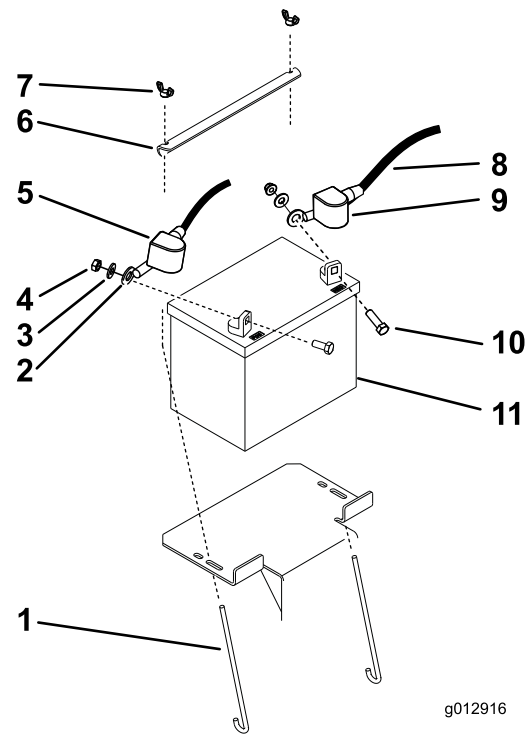

Figure 33
3. Remove the black rubber cover from the negative cable and disconnect the negative battery cable from the negative (-) battery terminal (Figure 33).
4. Slide the red terminal boot off the positive (+) battery terminal, and remove the positive battery cable (Figure 33).
5. Remove the battery hold-down plate and remove the battery (Figure 33).
1. Place the battery in the machine (Figure 33).
2. Secure the battery with the battery hold-down plate, j-bolts, and wing nuts (Figure 33).
3. Install the positive (red) battery cable to positive (+) battery terminal with a nut, washer, and bolt (Figure 33).
5. Install the negative battery cable and ground wire to the negative (-) battery terminal with a nut, washer, and bolt (Figure 33).